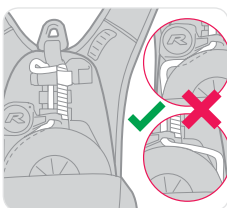

Figure 6
- Inspect descent line for any 'slack' between the drum and rack (Figure 6). If the line is slack the Latchways PRD shall be removed from service and advice sought from Latchways or authorised agent.